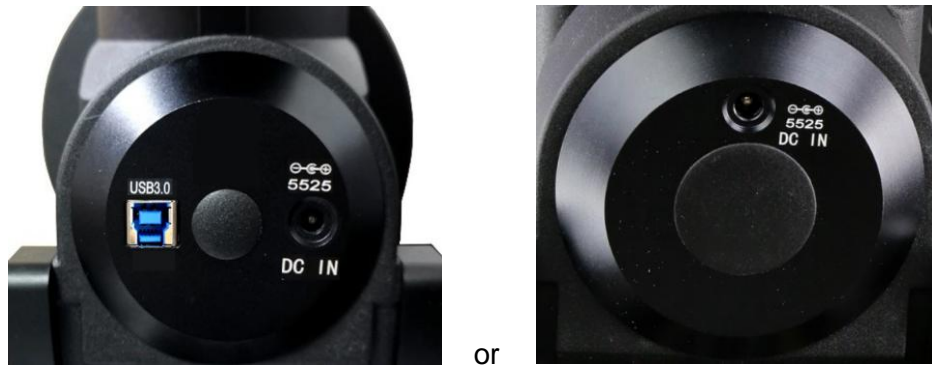

Figure 6. DC input on the rear end of RA axle
- DC 5521: 2.1mmX5.5mm DC output sockets for your accessories. The maximum specified current output is 5A. They are connected to the DC IN on the rear end of RA axis (Figure 6). The voltage is determined by the input voltage, such as 5V or 12V.
- 1X5525 (2.5mmx5.5mm) and 1X5521 (2.1mmX5.5mm) DC output sockets for your accessories. The combined maximum specified current output is 5A. They are connected to the DC IN on the rear end of RA axis (Figure 6). The voltage is determined by the input voltage, such as 5V or 12V.